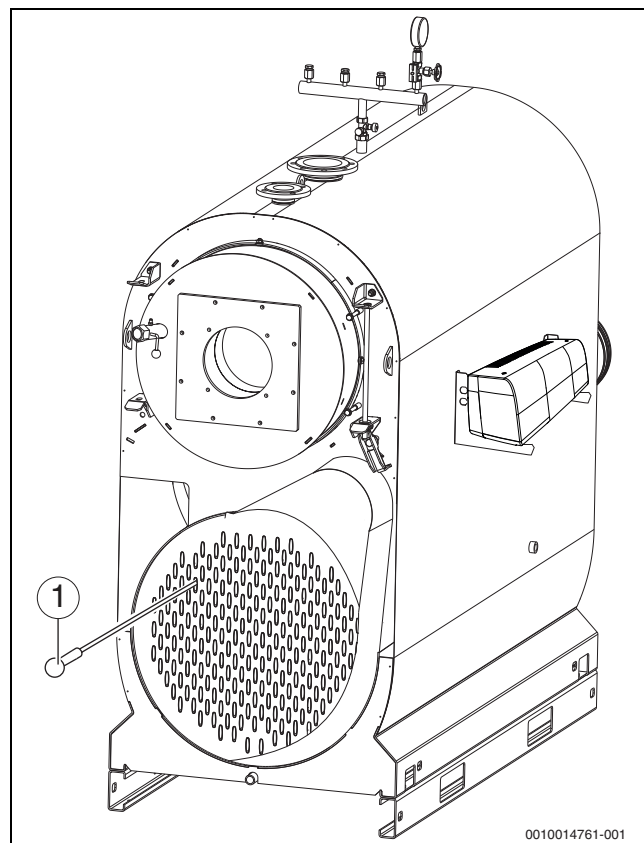

Fig. 39 Cleaning the flue gas collector
- Clean the secondary heating pipes with a brush (→ Figure 39, page 35).